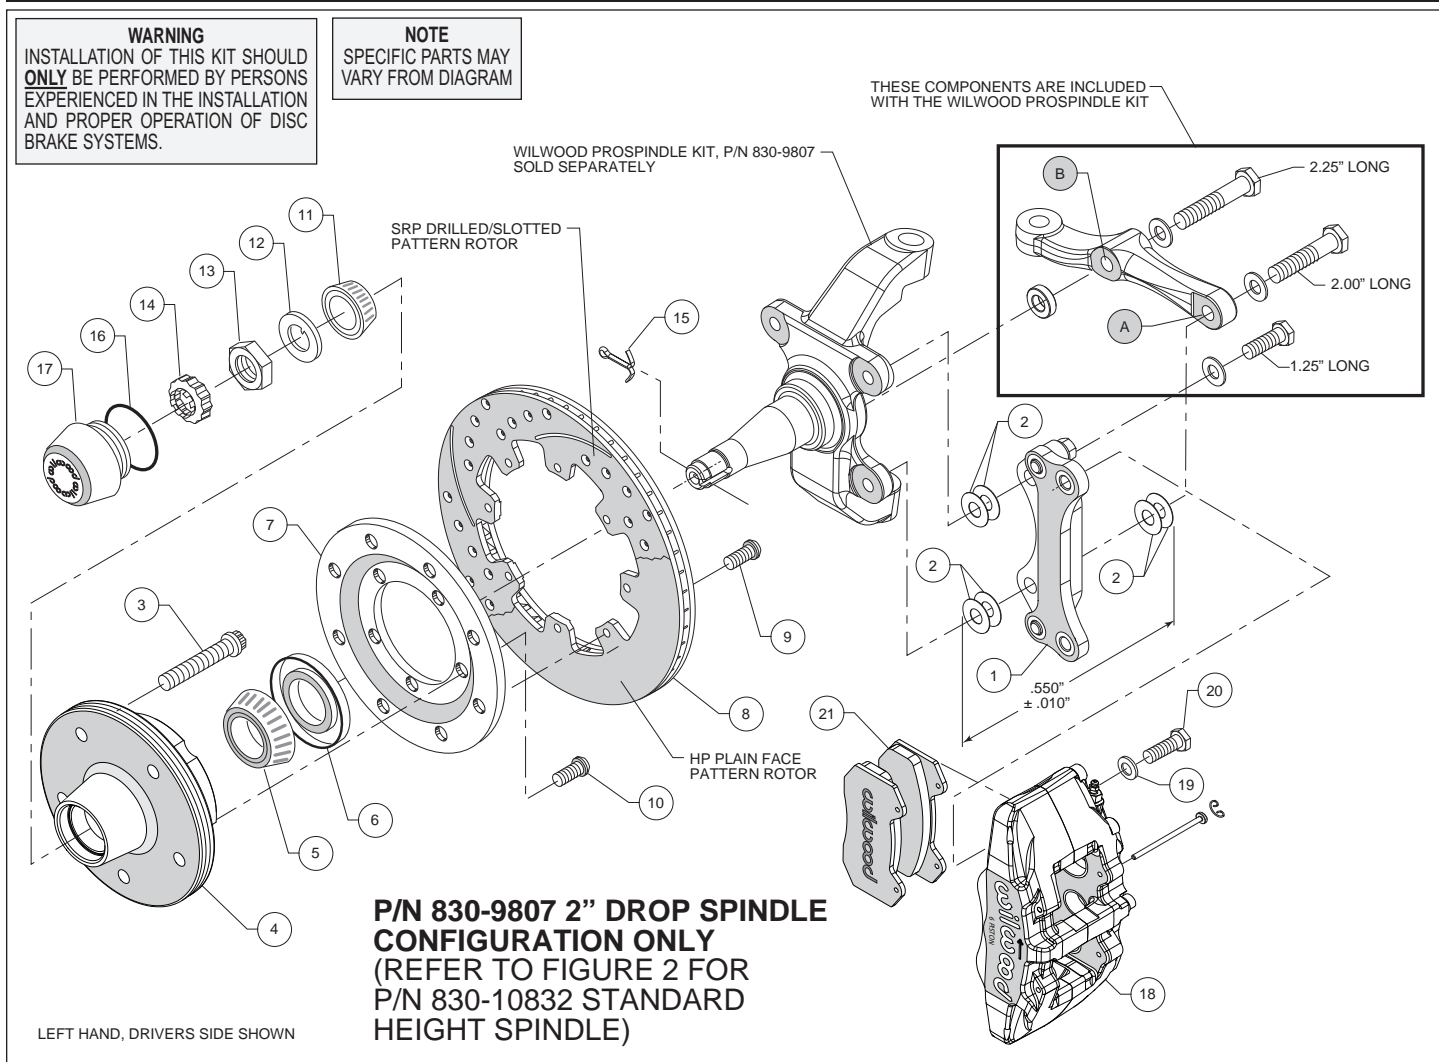

Figure 1. Installation Configuration for Drop Spindle, P/N 830-9807
P/N 830-10832 STANDARD HEIGHT SPINDLE CONFIGURATION ONLY (REFER TO FIGURE 1 FOR P/N 830-9807 DROP SPINDLE)
Assembly Instructions (numbers in parenthesis refer to the parts list and Figures 1 and 2 on the preceding pages):
- NOTE:** Each Wilwood ProSpindle kit includes bolts, washers, and a spacer to mount the steering arm and caliper bracket. The various bolts are identified by length in the following instructions and in Figures 1 and 2.
- Orient the bracket as shown in Figure 1 and Photo 1. Install at top spindle hole using 1.25" long bolt and .06" thick washer (from ProSpindle kit), and two .016" thick shims (2) between the bracket and spindle, Figure 1.
- Orient the steering arm, and identify the hole marked 'A', as shown in Figure 1. Install at bottom spindle hole using 2.00" long bolt, .06" thick washer (from ProSpindle kit), two .016" thick shims (2) between the steering arm and the bracket, and another two more .016" thick shims (2) between the bracket and spindle, Figure 1. The bracket is located between the steering arm and spindle. **NOTE:** The bracket and shim washers must add up to a total thickness of .550" \pm .010", Figure 1.
- Finish attaching the steering arm through the hole marked 'B', as shown in Figure 1. Install using 2.25" long bolt, .06" thick washer, and .25" thick spacer (all from ProSpindle kit), Figure 1.
- Pack the large inner bearing cone (5) with high temperature disc brake bearing grease (available from your local auto parts store) and install into the backside of the hub (4), Photo 4.
- Install the grease seal (6) by pressing into the backside of the hub (4), flush with the end of the hub, Photo 4.
- Orient the rotor (8) and the rotor adapter (7) as shown in Figure 1 or 2 and Photo 5. Attach the rotor to the adapter using bolts (9). Using an alternating sequence, apply red *Loctite*® 271 to the threads, and torque to 25 ft-lb.
- Mount the adapter/rotor assembly (7 and 8) to the hub (4) using bolts (10), as shown in Figure 1 or 2 and Photo 6. Using an alternating sequence, apply red *Loctite*® 271 to the threads, and torque to 45 ft-lb.
- Pack the small outer bearing cone (11) with high temperature disc brake bearing grease and install into front of hub (4), Photo 7. Slide the hub/rotor onto the spindle. Secure using spindle washer (12) and adjusting nut (13). Bearing adjustment: Tighten the nut while turning the hub. When there is a slight bind on the bearings, they are seated correctly. Back the nut off about 1/6 to 1/4 of a turn, or sufficiently to allow .001" to .007" end play. **WARNING:** Failure to back off adjusting nut could cause bearing to run hot and be damaged, which could cause the wheel to lock or come off. Install spindle nut retainer (14) and new cotter pin (15).
- Screw dust cap (17) into hub (4), Photo 8. Friction created by the o-ring (16) on the dust cap keeps it from unscrewing. **NOTE:** The O.D. of the existing OEM spindle washer may be larger than the I.D. of the dust cap not allowing it to seat against the hub face. Therefore, use the spindle washer (12) supplied with the kit instead of the OEM washer.
- NOTE:** Please reference the caution statement at the beginning of the assembly instructions. This kit contains distinct right and left hand calipers that must be mounted in a specific direction, as described below. Mount the caliper (18) onto the caliper bracket (1) using washers (19), and bolts (20) as shown in Figure 1 or 2. Ensure that the caliper is mounted so the largest pistons are at the rotor exit end of the caliper, in relation to the direction of rotor rotation. Temporarily tighten the mounting bolts and view the rotor (8) through the top opening of the caliper (18). The rotor should be centered in the caliper, Photo 9. If not, proceed as follows:
- Adjust by adding or subtracting shims (2) between the bracket and the spindle. Always use the same amount of shims on each of the two bolts between bracket and spindle.
- For the lower bracket mount bolt, if a shim was added between the bracket and spindle, then a shim must be removed between the steering arm and bracket, such that the total thickness of bracket and shims remain equal to $.550 \pm .010$ ", Figure 1.